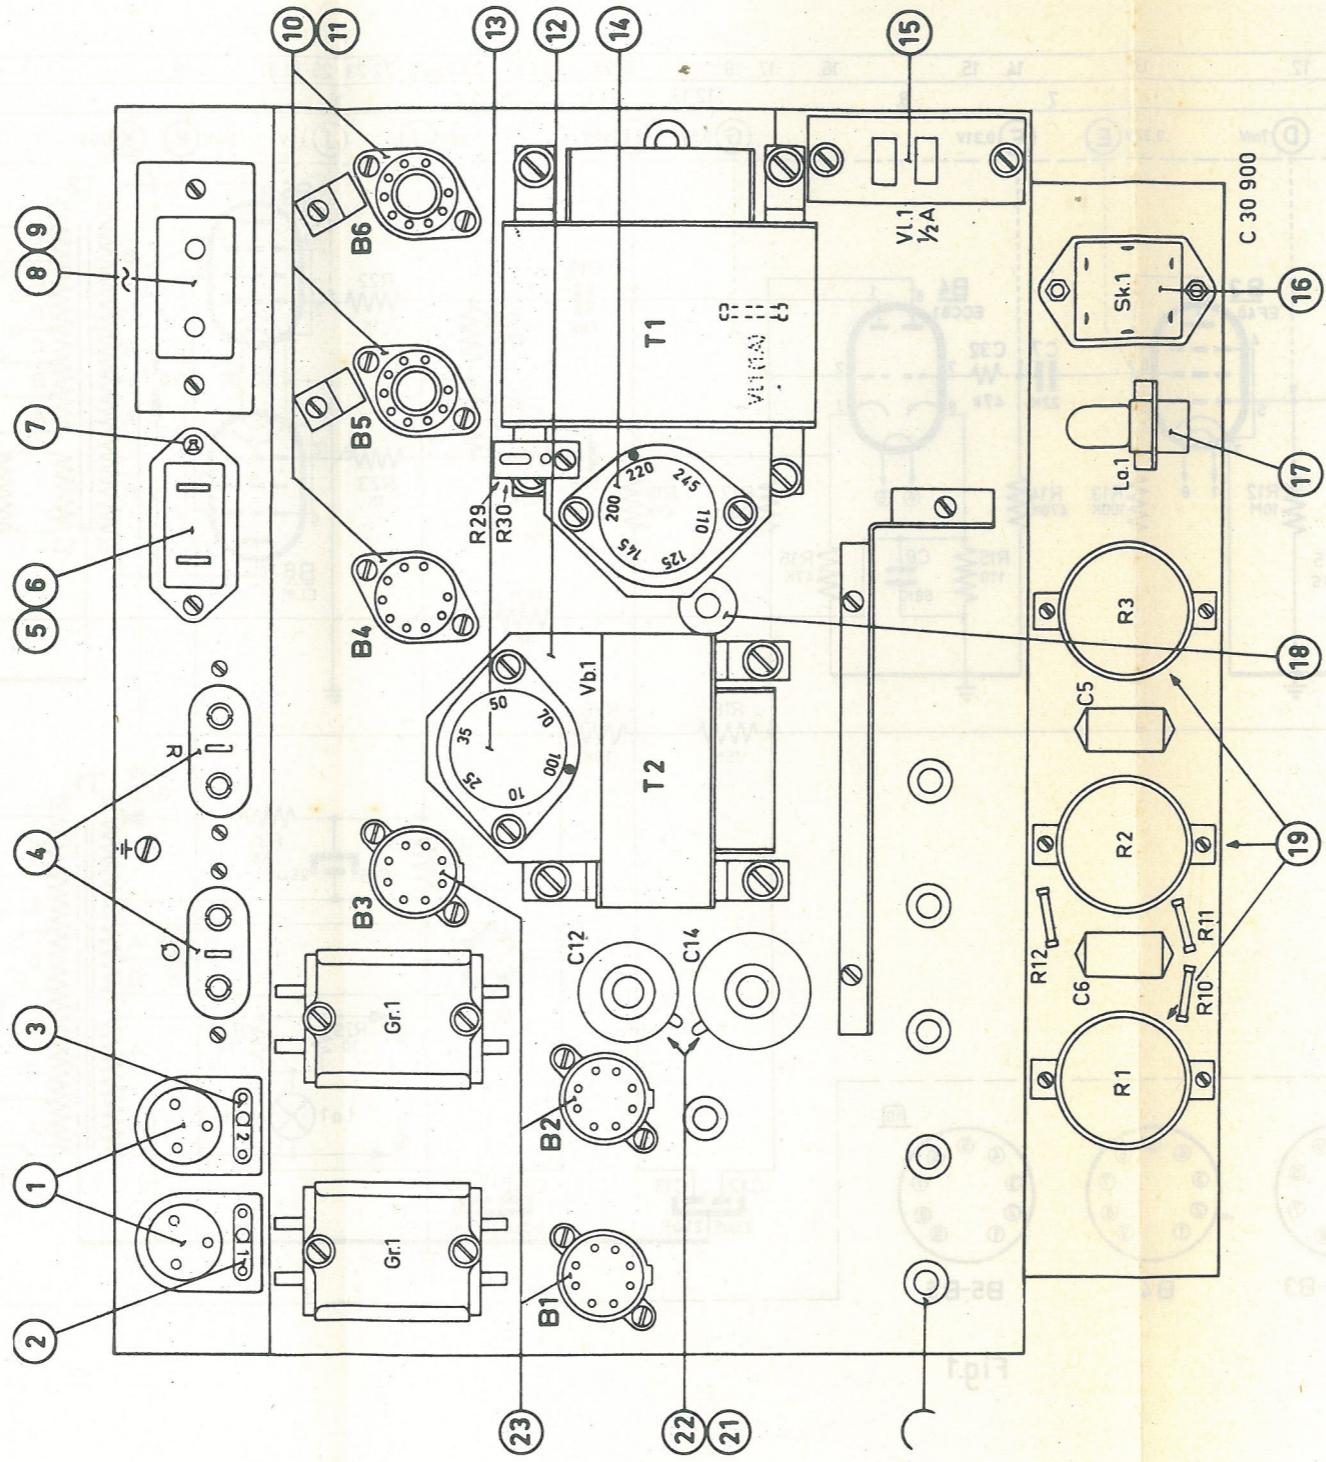

Fig.2
- Fig. 2 Top view of amplifier
CONNECTIONS (fig.2)